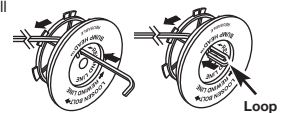

Fig. 31
- Take approximately 10 feet (3 m) of new trimming line. Insert one end of the line through one of the two holes in the inner reel (Fig. 31). Pull the line through the inner reel until only about 4 inches is left out.
- Insert the end of the line into the open hole in the inner reel and pull the line tight to make the loop as small as possible (Fig. 31).